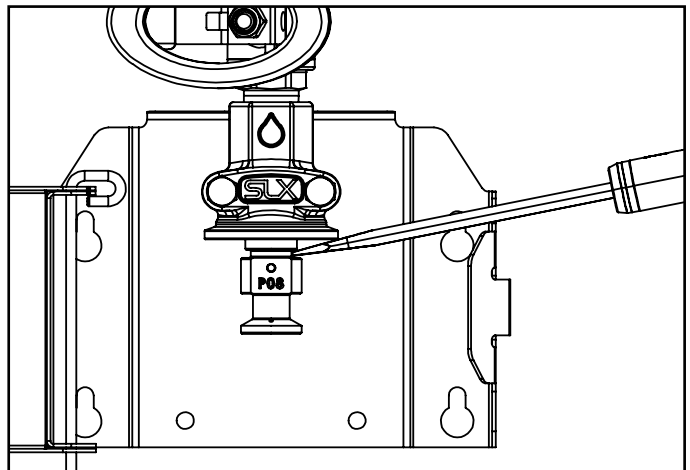

Fig. 7.3: Pump Fed insert removal using screwdriver
- A screwdriver can be used to pry the insert out if necessary [Fig. 7.3]